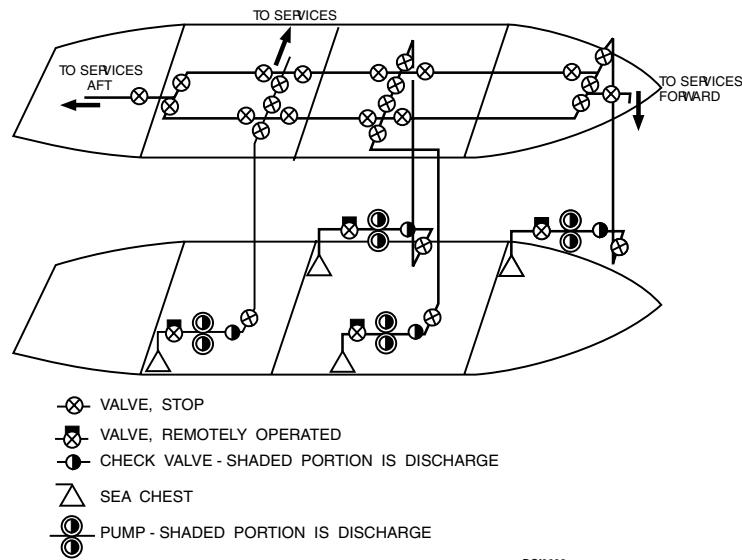

Figure 6-2. Horizontal loop firemain system.
2. The horizontal loop firemain system shown in figure 6-2 consists of two single fore-and-aft, cross-connected piping runs. The two individual lengths of piping are installed in the same horizontal plane (on the same deck) but are separated athwartships as far as practical.